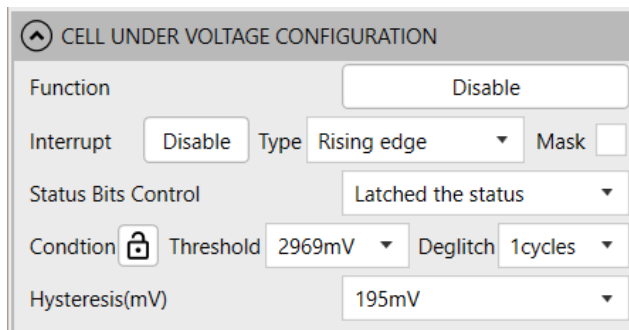

Figure 23: Cell UV Configuration
18. Figure 23 shows how to configure the cell under-voltage (UV) parameters.